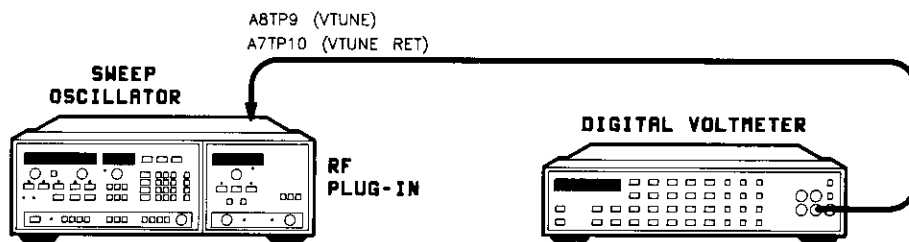
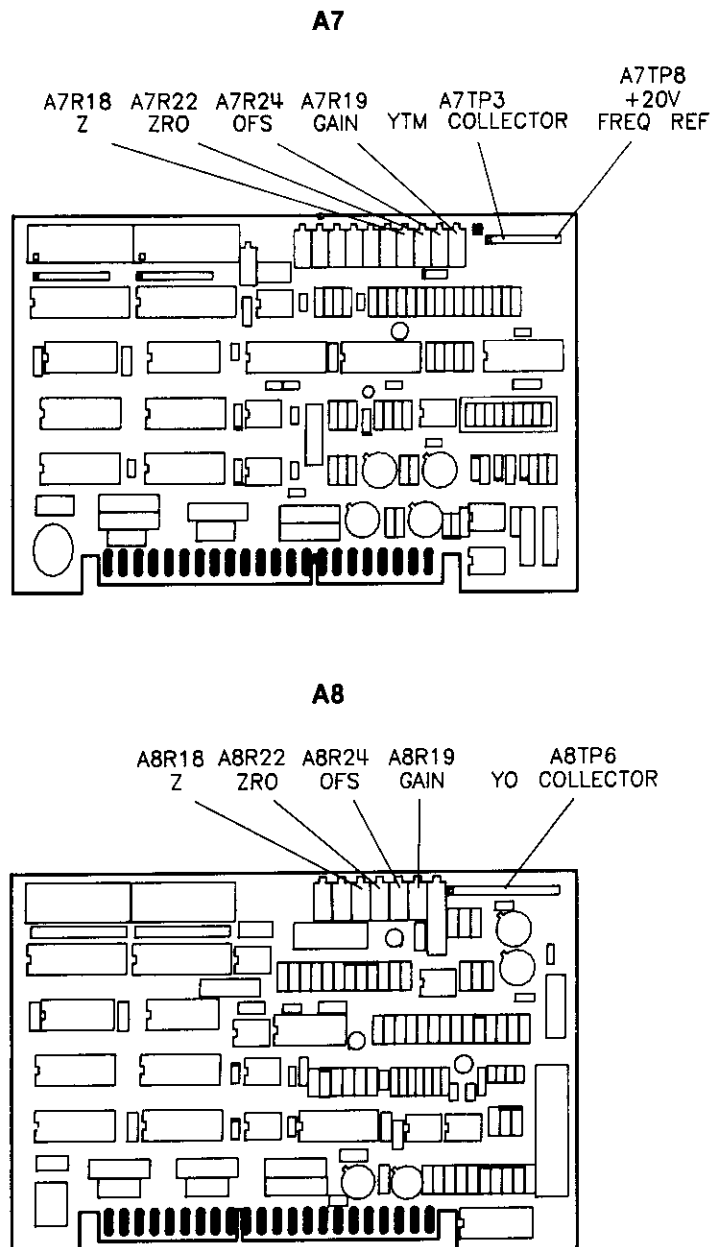

Figure 5-5. YO and YTM DAC Calibration Test Setup
Figure 5-6. YO and SYTM DAC Calibration Adjustment Locations
1. Connect the equipment as shown in Figure 5-5 with DVM HI connected to A6TP9 (VTUNE) and DVM LO connected to A6TP10 (VTUNE RET). Refer to Figure 5-6 for test point and adjustment locations. Allow the RF plug-in to warm up for 1 hour.